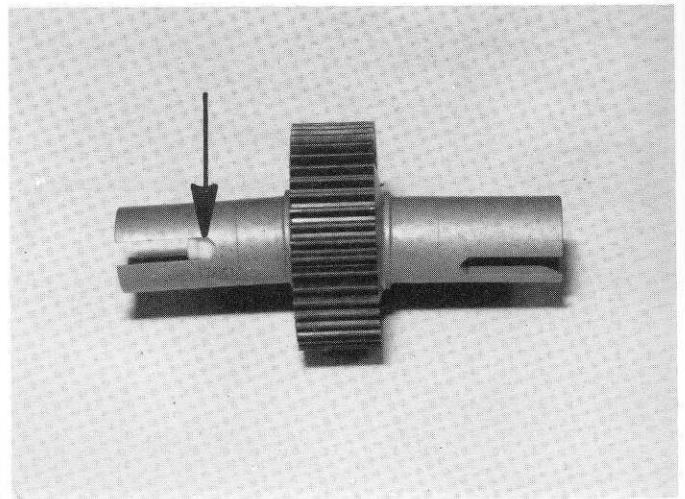

Fig. 56
□ **Fig. 56** As you're tightening, you'll notice the ear on the T-nut, shown by the arrow, moving closer and closer to the bottom of the slot in the hub. The spring should bottom out about the same time as the ear is at the bottom of the slot. When you feel the spring bottom out, that's when you back off 1/8 to 1/4 turn and your diff is correctly adjusted. The diff should operate very smoothly when turning the hubs in opposite directions. Recheck the adjustment before driving the car. There is never a need to adjust the diff in any other manner.